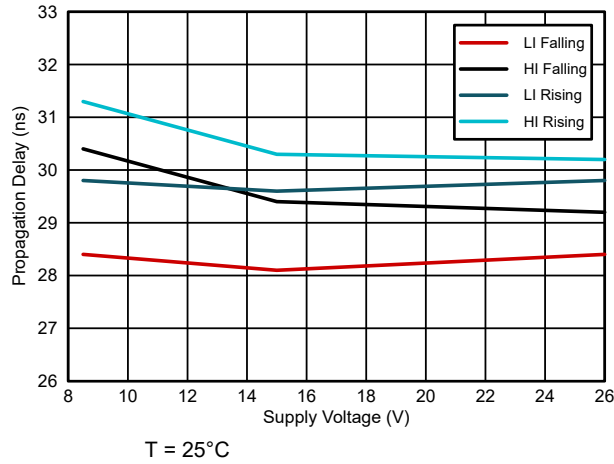
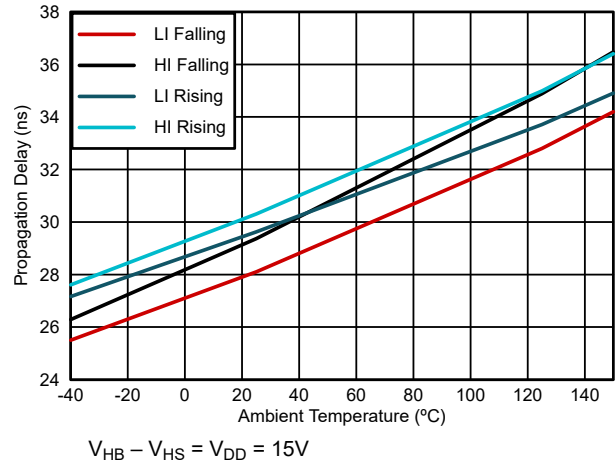
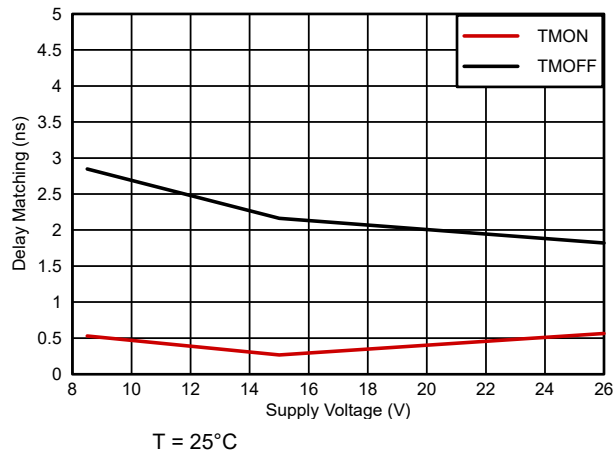
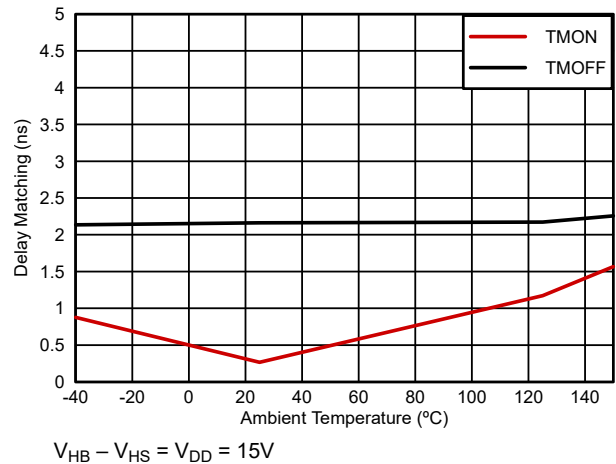

Figure 5-2. Propagation Delay vs Supply Voltage
Figure 5-3. Propagation Delay vs Temperature
Figure 5-4. Delay Matching vs Supply Voltage
Figure 5-5. Delay Matching vs Temperature
The level shift circuit (refer to the functional block diagram in Figure 6-1) is the interface from the low-voltage input stage to the high-side driver stage which is referenced to the switch node (HS). The level shift allows control of the HO output referenced to the HS pin and provides excellent delay matching with the low-side driver. The delay matching of the UCC278X4 is summarized in Figure 5-5 and Figure 5-4.
The UCC278X4 features a fast, 29ns (typical) propagation delay (refer to Figure 5-2 and Figure 5-3) between input and output. The UCC278X4 also offers well-matched delay between the HO and LO channels (5ns max) enabling more precise dead-time control over operating conditions (refer to Figure 5-4 and Figure 5-5).